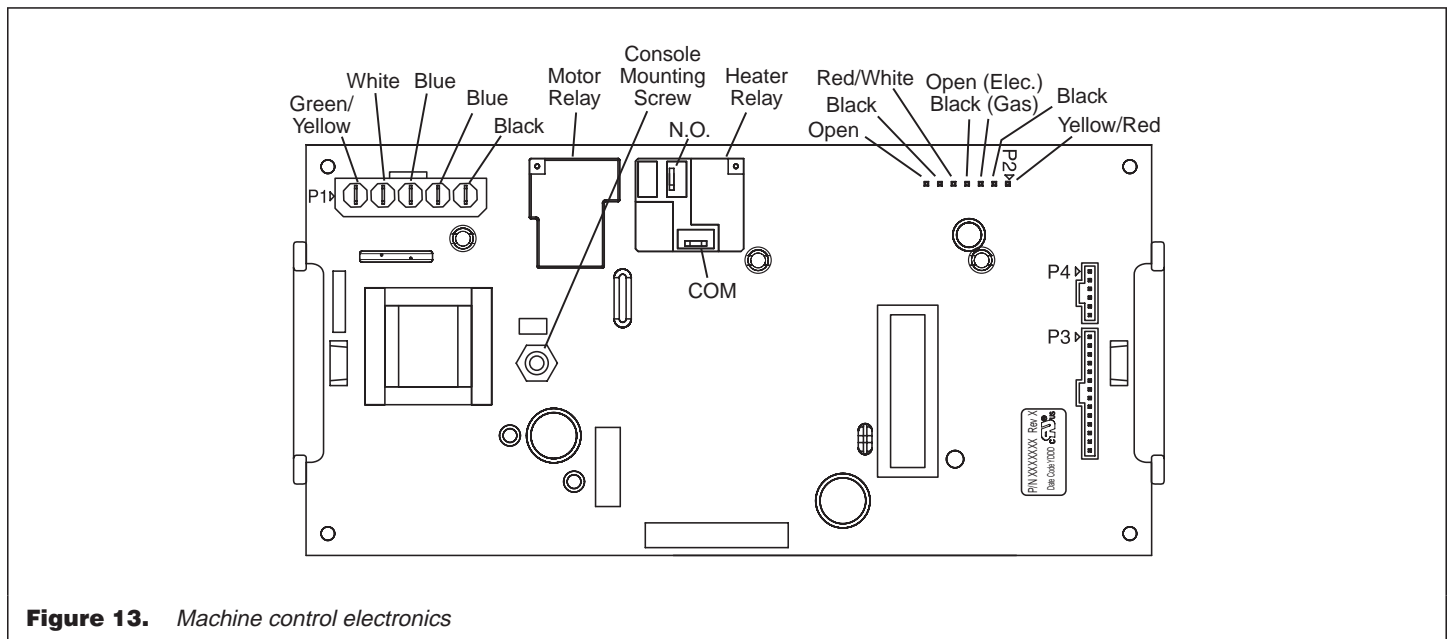

Figure 13. Machine control electronics
- See Accessing the Machine Control Electronics on page 10 and remove connectors P3 and P4 from the machine control electronics (see figure 13, page 9, for connector locations).
Remove all the wire connections to the machine control board. See figure 13, page 9.